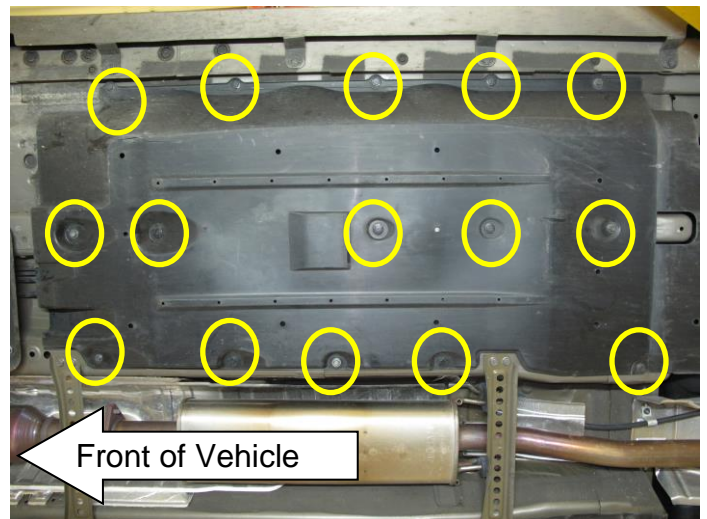

Figure 2
2. Remove the floor under cover (LH) if applicable (Figure 2).
- Remove the (8) front clips and (7) bolts using suitable tools.